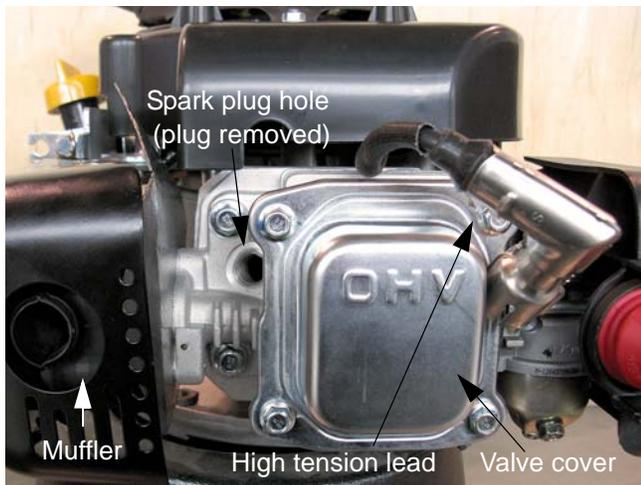

Figure 1.12
3. Remove the spark plug using a 13/16" or 21mm wrench. A flexible coupling or "wobbly" extension may help. See Figure 1.12.